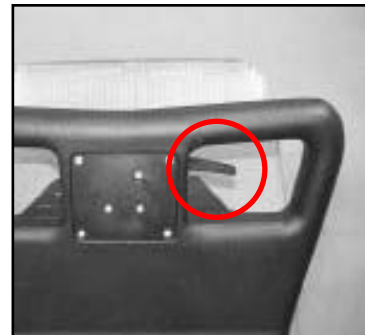

Figure 8. Location of Solution Trigger
3. For solution output, activate either the "Continuous Spray" switch or squeeze the solution trigger (see Figure 8).